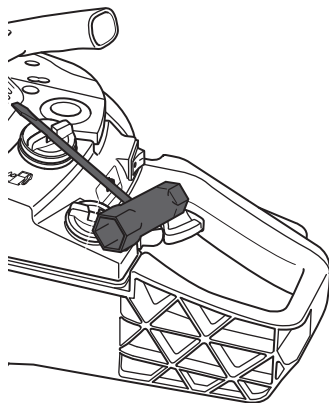

Fig. 15
- > Wipe up spilled fuel with a soft cloth and refit the fuel tank cap (29). Use the combination spanner (32) to tighten the cap (29) properly (Fig. 15).